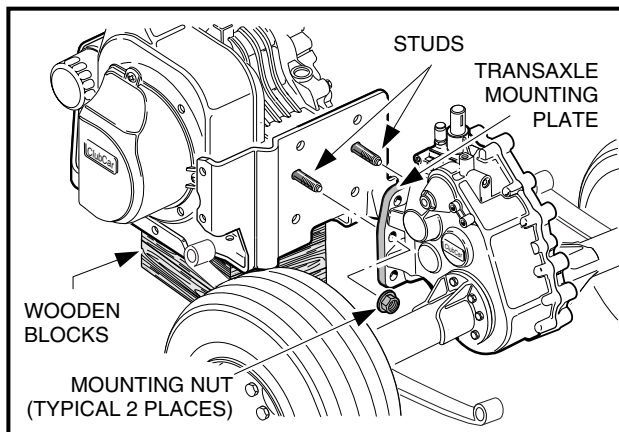

FIGURE 10-86
2. Position the transaxle mounting plate on the two mounting studs at the rear of the engine, and then install the two mounting nuts (**Figure 10-86**). Use a 14 mm wrench.